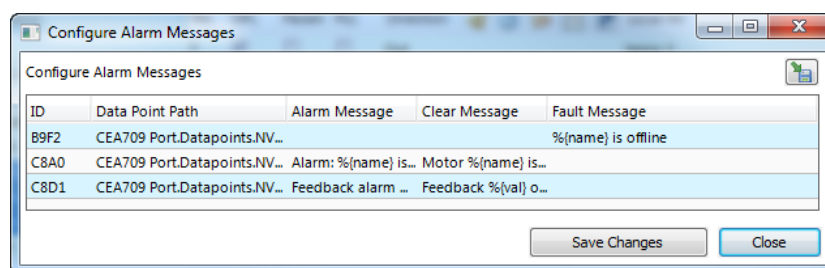

Figure 69: Spreadsheet for multi-edit of alarm messages.
- Configure Alarm Messages:** Use this option from the context menu for editing alarm messages (alarm, clear, fault) for all data points in the selection. A dialog with a spreadsheet view appears as shown in Figure 69. Edit the messages directly in the spreadsheet. Alternatively, click on the export button  to export the spreadsheet as a CSV file for editing in Excel. Import a CSV file with alarm messages in the menu **Tools** → **Import alarm messages**.